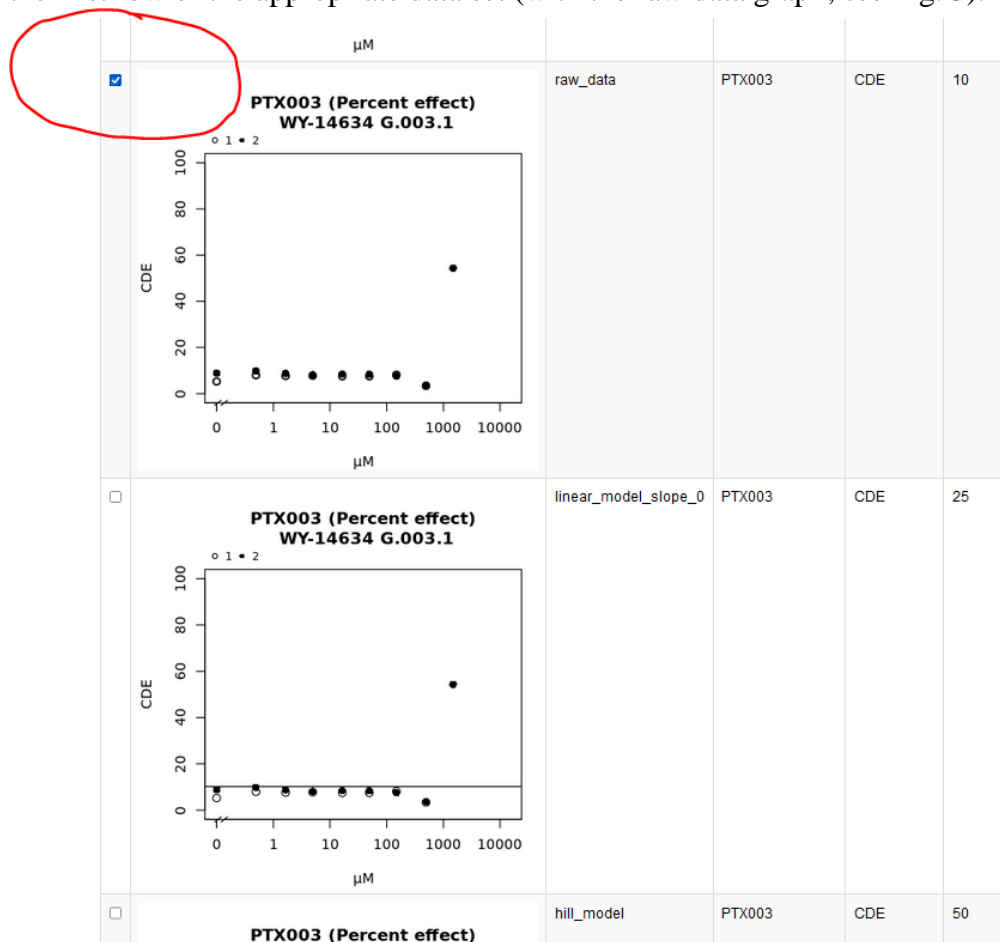

Fig. 3: Close-up from the KNIME workflow. Select datasets that should be flagged by checking the first row for the appropriate dataset
In the workflow, flag any results where the model does not describe the data appropriately. You can identify these data sets by visual inspection and checking various statistical parameters (p-values from trend analysis, variance_explained, AIC_delta). Your flag will be transmitted to the final reporting file. You only need to select the first row of the appropriate data set (with the raw data graph; see Fig. 3).
0. The model with the lower AIC has a better fit. For instance, if the linear model with slope 0 has a lower AIC this indicates that there rather is no trend or the variability is so large that it is difficult to model the data, or the Hill model is not appropriate. In Fig. 3 two examples are shown. In A the AIC is very different for the Hill model and the linear curve (slope 0) model. In example B – not surprising – both AIC are very close indicating that the Hill model fit is not very good. Here a different model may be considered, but more data for the higher effect range would probably be needed as well and with more data the Hill model fit may become better.
Below are two examples with a rather different VarianceRed values (Fig. 3). As you can see from the curve in B, the data points are still quite distant to the model in contrast to the graph in A. You may consider using a different model but there is also a range of data where more data points might be needed to conduct a proper curve fitting.